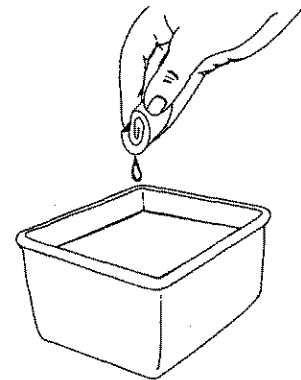

Fig. 37
3. Wash the filter in detergent and water (Fig. 37). Rinse the filter thoroughly. Squeeze out excess water. Allow it to dry completely.